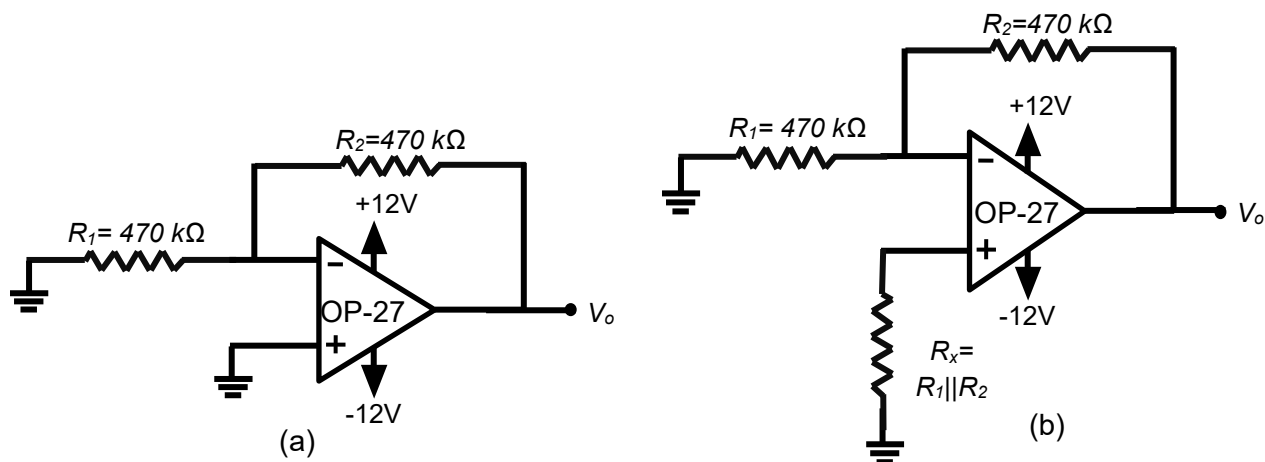

Figure 6. (a) Uncompensated circuit. (b) Compensated circuit.
It is possible to minimize the DC imperfection of an op-amp circuit such as the one shown in Figure 6(a) by adding a compensating resistance (R_x) at the non-inverting input as shown in Figure 6(b). See Sedra and Smith for the development of the compensating resistor.
1. Refer to the circuit in Figure 6(a). Record the resistance values for R_1 and R_2 , and then connect the circuit as shown. Measure and record the output voltage using the DMM.
2. Add R_x to compensate for the offset measurements as shown in Figure 6(b). Measure and record the output voltage using the DMM.